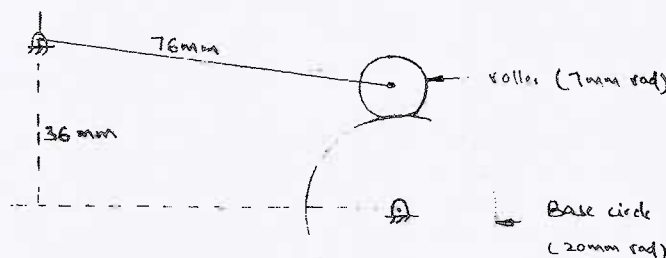

Fig. Q8
- 8 For a cam follower system shown in Fig. Q8, draw the displacement diagram for the follower and cam profile. Motion of the follower is as follows. Rise through 20° in 90° cam rotation in SHM, dwell in 90° cam rotation, fall in 90° cam rotation in SHM. The cam rotates in CW direction. (20 Marks)